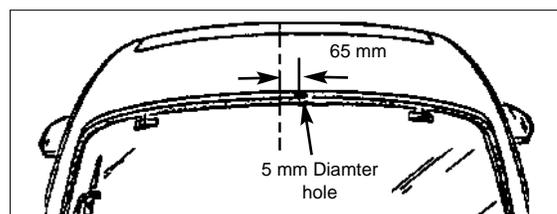

Figure 2
911 Carrera 2/4 911 Turbo (964) Figure 2